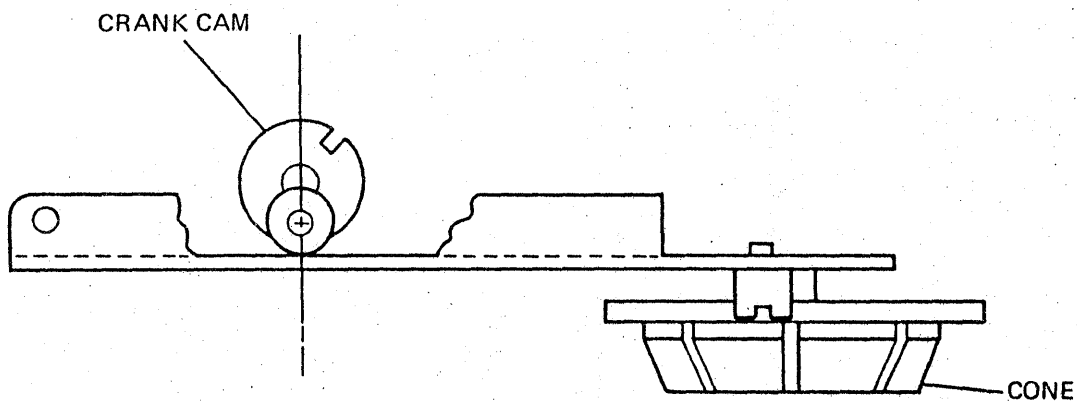

Figure 2-11B. Eject Motor Cam Alignment Check - Carrier Closed
- c. Observe the crank cam moves to a bottom dead center position relative to the carrier plane, i. e., maximum penetration of cone assembly into hub. (Figure 2-11B.)